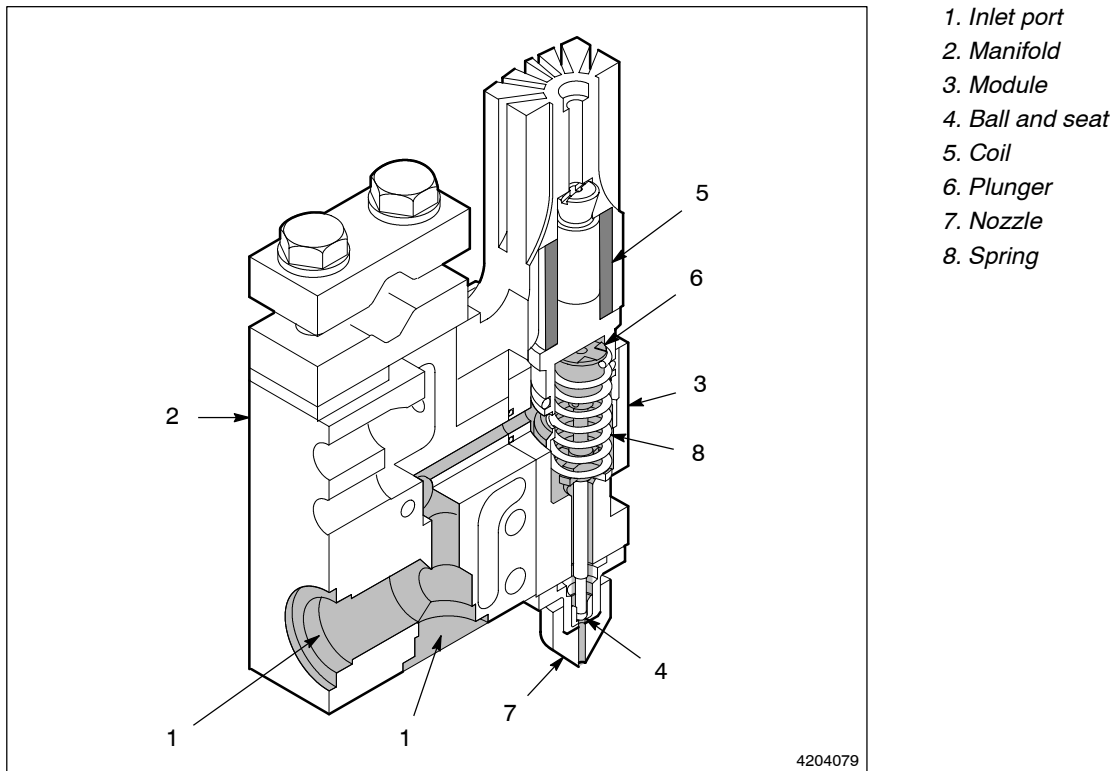

Fig. 2-2 E-200 Modular Electric Gun Operation
During operation (see Figure 2-2), molten adhesive is supplied to the E-200 gun by the pump in the applicator. The material enters the inlet port (1) located on the rear or bottom of the gun and is directed through the manifold (2) and module (3) to the ball and seat (4). When the coil (5) is energized, the plunger (6) lifts the ball off the seat. The hydraulically pressurized adhesive material is extruded through the nozzle (7) while the ball is held off its seat by magnetic attraction on the plunger. When the timer de-energizes the driver, the coil loses its magnetic attraction and the plunger return spring (8) forces the ball against its seat, stopping material flow.